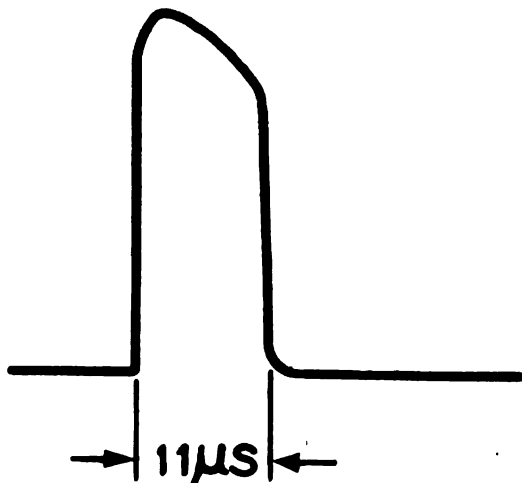
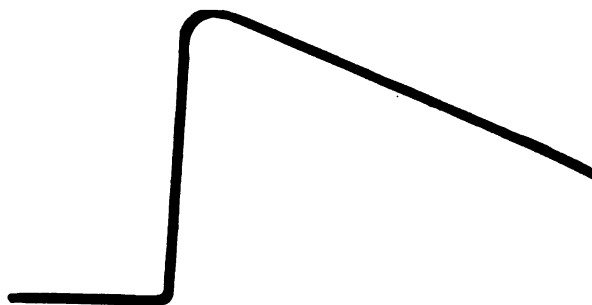

Figure 193. Test oscilloscope pattern.
Figure 194. Test oscilloscope pattern.
(6) Connect the test cable to the diode head; then close the switch on the diode head. Close the push-button switch on the patch-cord box No. 2. A waveform similar to that shown in figure 193 should be obtained. This is the envelope of the r-f wave and is similar to the modulating-pulse envelope. This pulse will show any irregularities in the r-f output of the transmitter. Open the switch on the diode head. The waveform shown in figure 194 should be